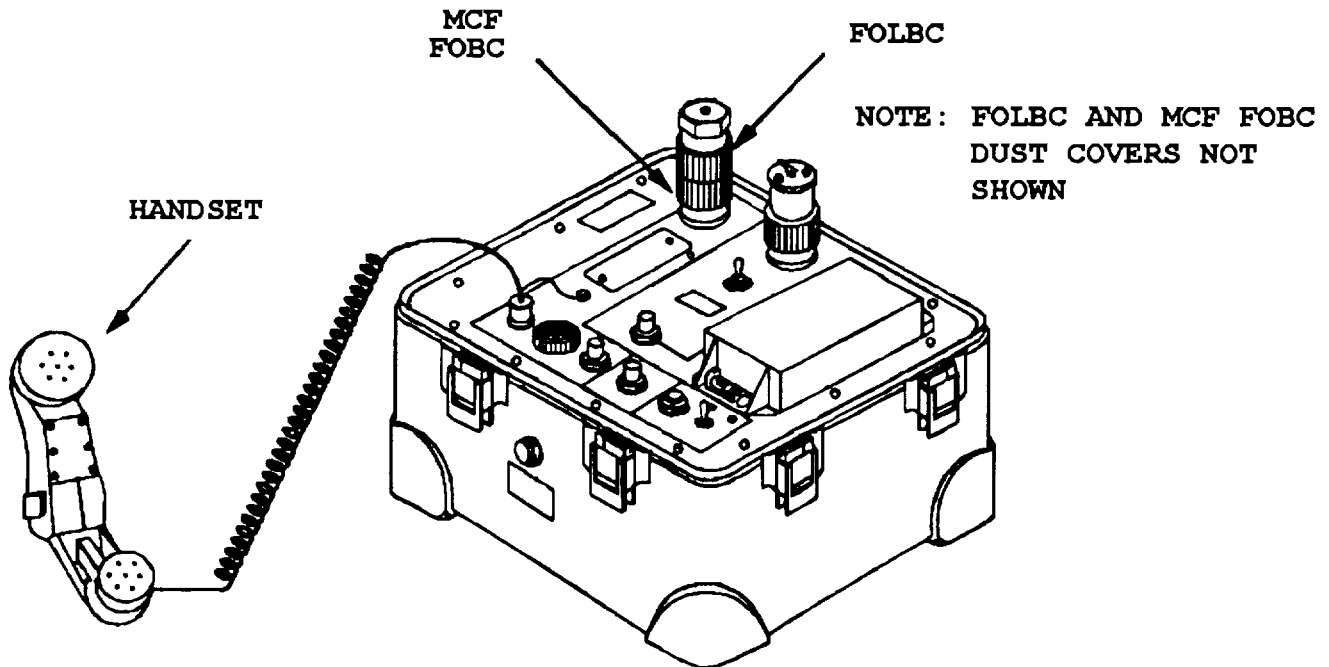

FIGURE 2-2. *MCF Test Setup.*
- (1) Disconnect dust cover from MCF FOBC.
- (2) Remove FOLBC from case top.
- (3) Disconnect dust cover from FOLBC.
- (4) Connect FOLBC to MCF FOBC and tighten securely. The setup for the MCF test is shown in Fig. 2-2.
- (5) Verify that OSM display ROA indicator is present.
- (6) Remove handset from case top.
- (7) Remove protective cap from orderwire connector.
- (8) Connect handset to orderwire connector.
- (9) Position handset to ear.
- (10) Press and hold RING switch approximately one second. An audible signal should be heard through handset, and CALL indicator should be audible after a momentary delay.
- (11) Disconnect FOLBC and handset.
- (12) Install dust cover on FOLBC.
- (13) Install protective cap on orderwire connector.
- (14) Place FOLBC and handset in case top.